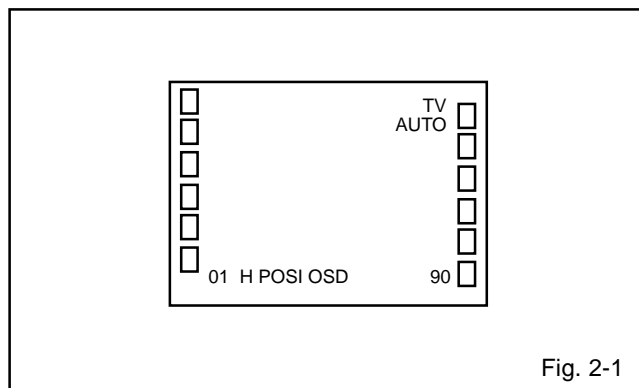

Fig. 2-1
2. Press the VOL. DOWN button on the set and the channel button **(9)** on the remote control for more than 2 seconds to display adjustment mode on the screen as shown in **Fig. 2-1**.
3. Activate the adjustment mode display of **Fig. 2-1** and press the channel button **(36)** on the remote control to select "CONTRAST MAX".
8. Activate the adjustment mode display of **Fig. 2-1** and press the channel button **(36)** on the remote control to select "CONTRAST MAX".
15. Activate the adjustment mode display of **Fig. 2-1** and press the channel button **(36)** on the remote control to select "CONTRAST MAX".
20. Activate the adjustment mode display of **Fig. 2-1** and press the channel button **(36)** on the remote control to select "CONTRAST MAX".
5. Activate the adjustment mode display of **Fig. 2-1** and press the channel button **(03)** on the remote control to select "R DRIVE (N)".
6. Press the CH. UP/DOWN button on the remote control to select the "R CUTOFF (N)", "B.DRIVE(N)", "B CUTOFF (N)", "R DRIVE (C)", "R CUTOFF (C)", "B.DRIVE(C)", "B CUTOFF (C)", "R DRIVE (W)", "R CUTOFF (W)", "B.DRIVE(W)" and "B CUTOFF (W)".
7. Adjust the VOL. UP/DOWN button on the remote control to whiten the R CUTOFF (N), B.DRIVE(N), B CUTOFF (N), R DRIVE (C), R CUTOFF (C), B.DRIVE(C), B CUTOFF (C), R DRIVE (W), R CUTOFF (W), B.DRIVE(W) and B CUTOFF (W) at each step tone sections equally.
5. Activate the adjustment mode display of **Fig. 2-1** and press the channel button **(28)** on the remote control to select "BRIGHT CENT".